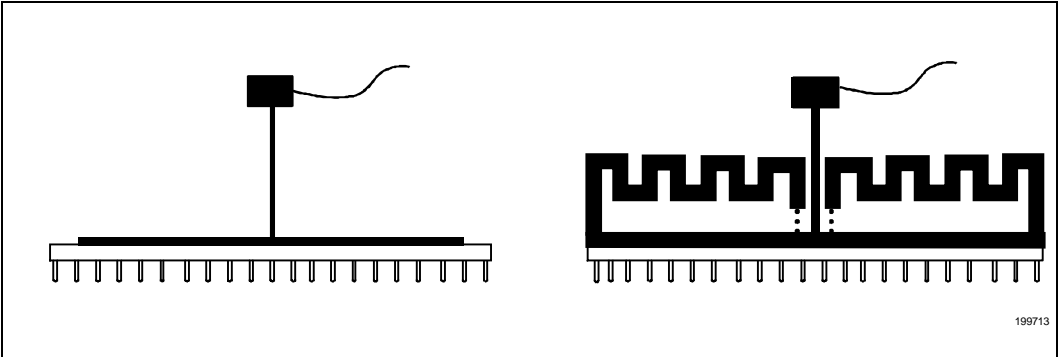

Figure 15. Technique for Measuring T_C^*
without a heat sink attached. When a heat sink is attached, a hole (smaller than 0.150" diameter) should be drilled through the heat sink to allow probing the center of the package. See Figure 15 for an illustration of how to measure T_C .
- The thermocouple should be attached at a 90-degree angle as shown in Figure 15.